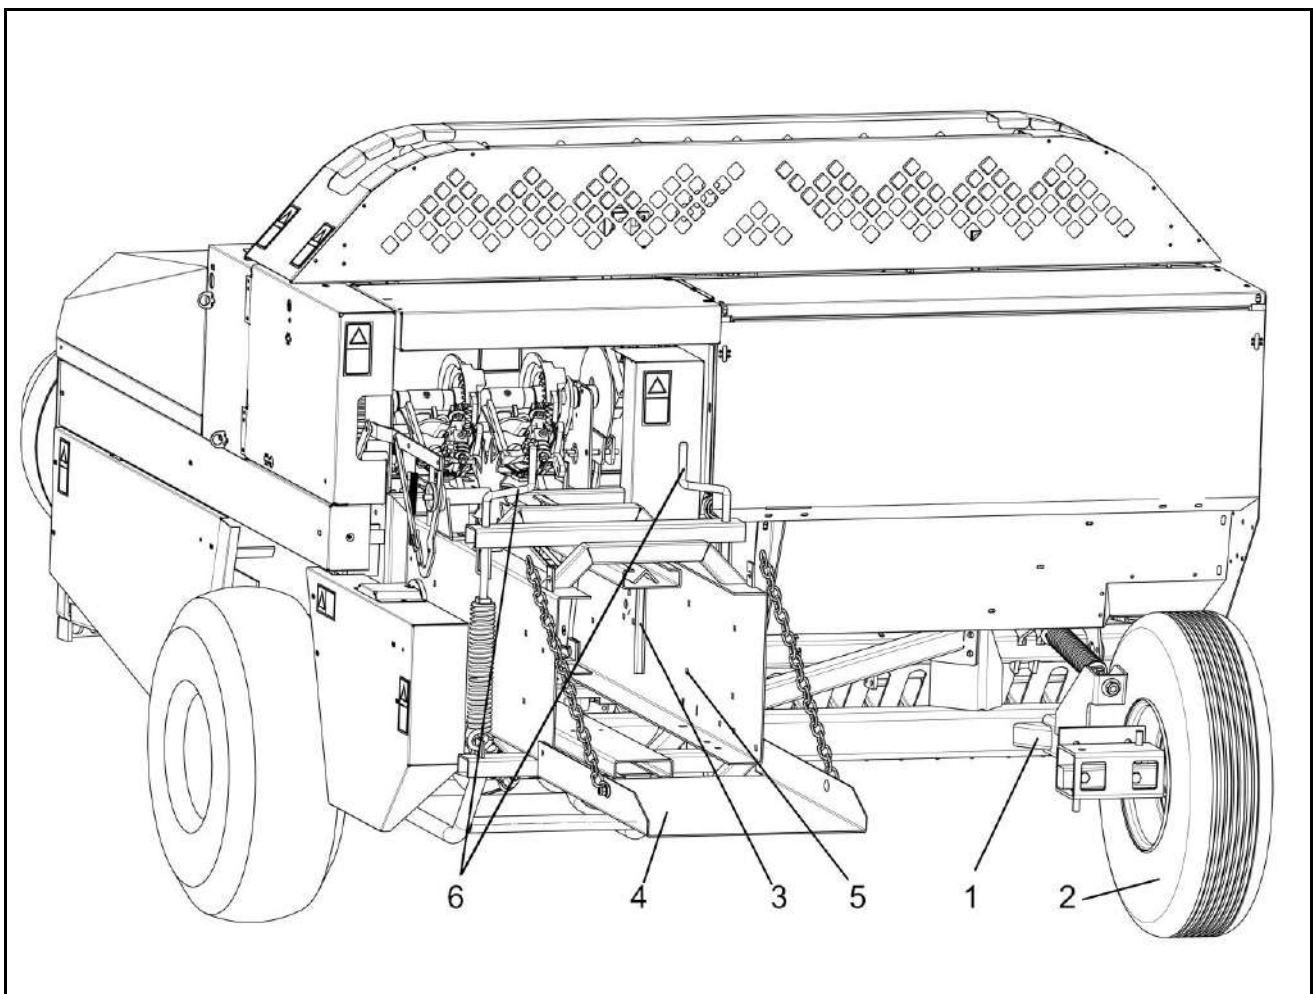

Fig. 7.24
The density can be adjusted by turning the cranks 6 (Fig. 7.24); screwing in the cranks brakes the outgoing material more and increases the density of the bale.
To further increase the density, straw trap wedges 3 (Fig. 7.24) are inserted into the appropriate holes in the bale chamber (ref.5, Fig. 7.24).